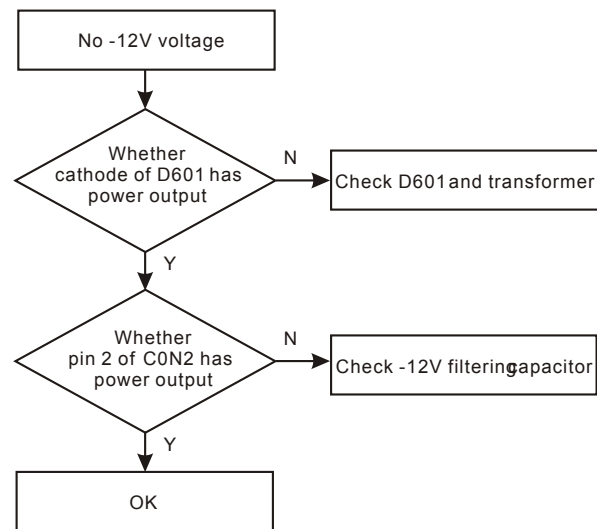

Figure 3.3.2.9 Troubleshooting process for “No -12V voltage”
10. Troubleshooting process for “No voltage output (power board OKI-DV300/OKI-P00807A)” is shown in the following figure 3.3.2.10: